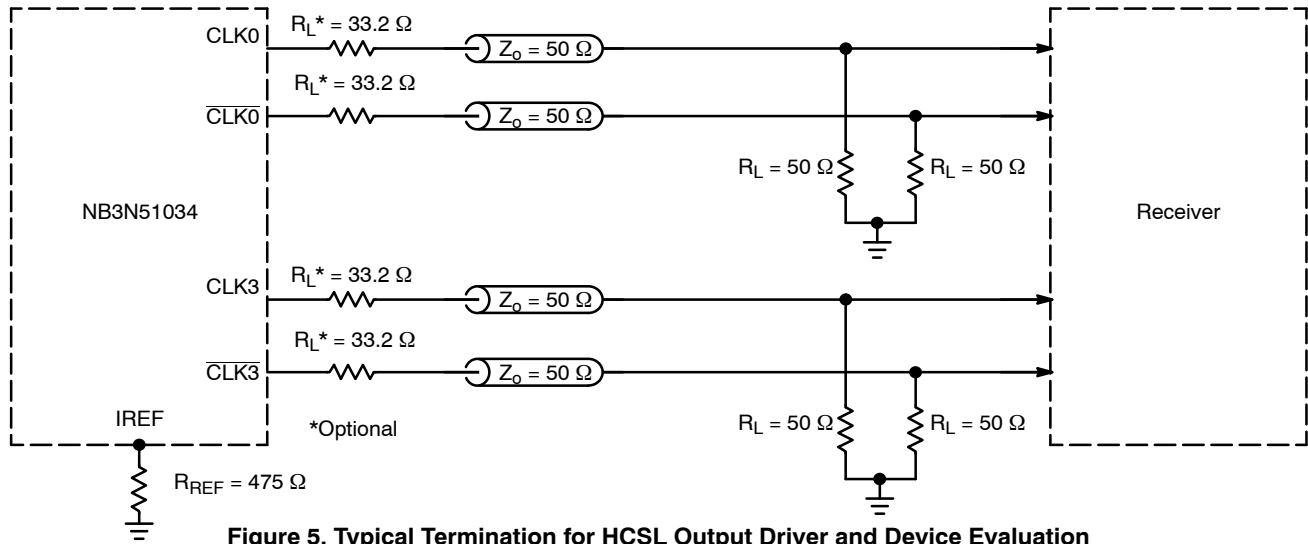

Figure 5. Typical Termination for HCSL Output Driver and Device Evaluation
- Measurement taken with outputs terminated with R_S = 33.2 Ω , R_L = 50 Ω , with test load capacitance of 2 pF and current biasing resistor set at 475 Ω . See Figure 5. Guaranteed by characterization.
5. Measurement taken from differential output on single-ended channel terminated with $R_S = 33.2\ \Omega$, $R_L = 50\ \Omega$, with test load capacitance of 2 pF and current biasing resistor set at 475 Ω . See Figure 5. Guaranteed by characterization.
19. Measurement taken from differential output on single-ended channel terminated with $R_S = 33.2\ \Omega$, $R_L = 50\ \Omega$, with test load capacitance of 2 pF and current biasing resistor set at 475 Ω . See Figure 5. This parameter is guaranteed by characterization. Not tested in production.